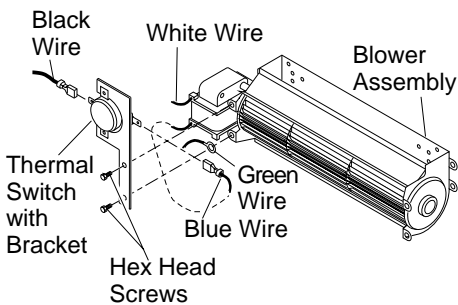

Figure 15 - Attaching Thermal Switch to DA3610T Thermostatically Controlled Blower Accessory
1. Remove the two hex head screws on the blower assembly as shown in Figure 15.